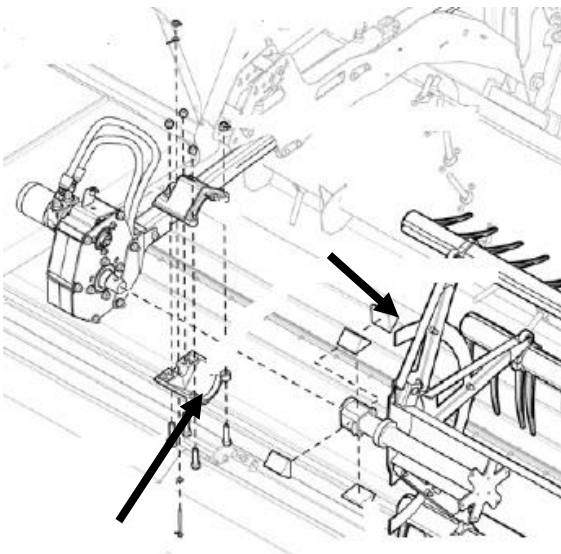

Figure 187
13. Install new flex couplers in the reel if the old couplers are damaged. Place the flex couplers on the reel shaft and wrap tape to hold them in place. Install the coupler covers in place and secure the the mounting bolts. Figure 187